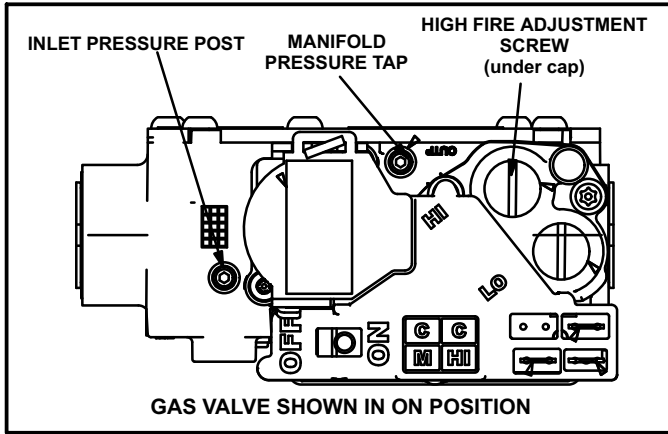

FIGURE 22
Gas Valve Operation (Figure 22)
- 6 - Move switch on gas valve to **OFF**. Do not force. See figure 22.
- 8 - Move switch on gas valve to **ON**. Do not force. See figure 22.
An inlet post located on the gas valve provides access to the supply pressure. See figure 22. Back out the 3/32 hex screw one turn, connect a piece of 5/16 tubing and connect to a manometer to measure supply pressure. See table 13 for supply line pressure.
- 1 - Connect test gauge to manifold pressure tap (figure 22) gas valve.
- 4 - If necessary, make adjustments. Figure 22 shows location of high fire adjustment screw.